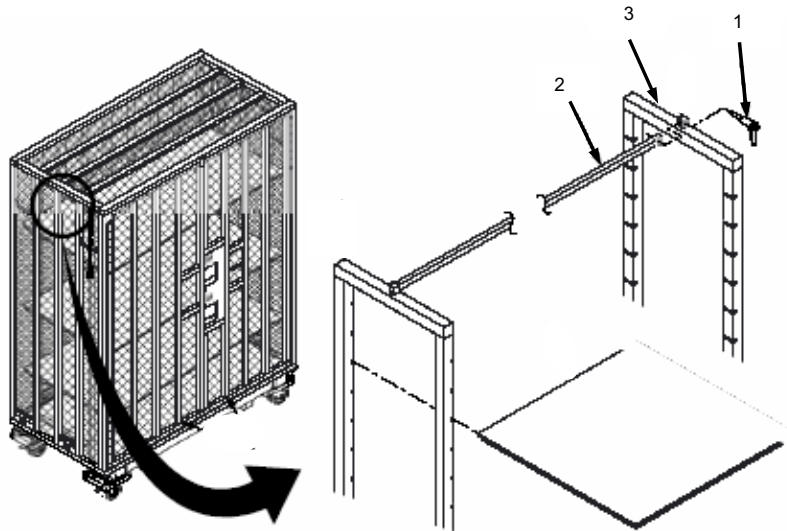

Figure 3-12. Removing or Inserting the Coat Rack Bar.
1. Remove release pin (Figure 3-12, Item 1) from the coat rack bar (Figure 3-12, Item 2) on the top of the cage frame (Figure 3-12, Item 3).
2. Remove the coat rack bar (Figure 3-12, Item 2).
1. Place the coat rack bar (Figure 3-12, Item 2) inside the cage and align with the top of the cage frame (Figure 3-12, Item 3).
2. Secure coat rack bar (Figure 3-12, Item 2) with release pin (Figure 3-12, Item 1).